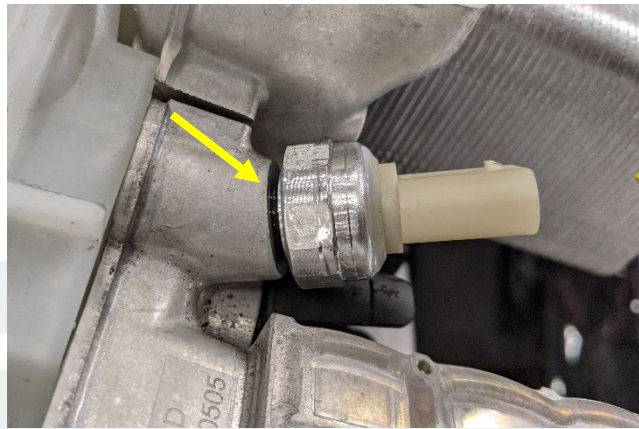

Figure 9 – O-ring just makes contact
- Install and hand-tighten the low pressure P/T sensor until the sensor O-ring just makes contact with the Supermanifold (Figure 9).